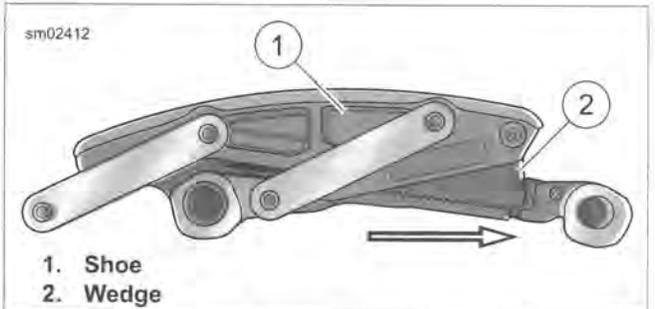

Figure 5-16. Primary Chain Tensioner
- b. See Figure 5-16. Slide wedge of primary chain tensioner in direction of arrow until all travel is removed.